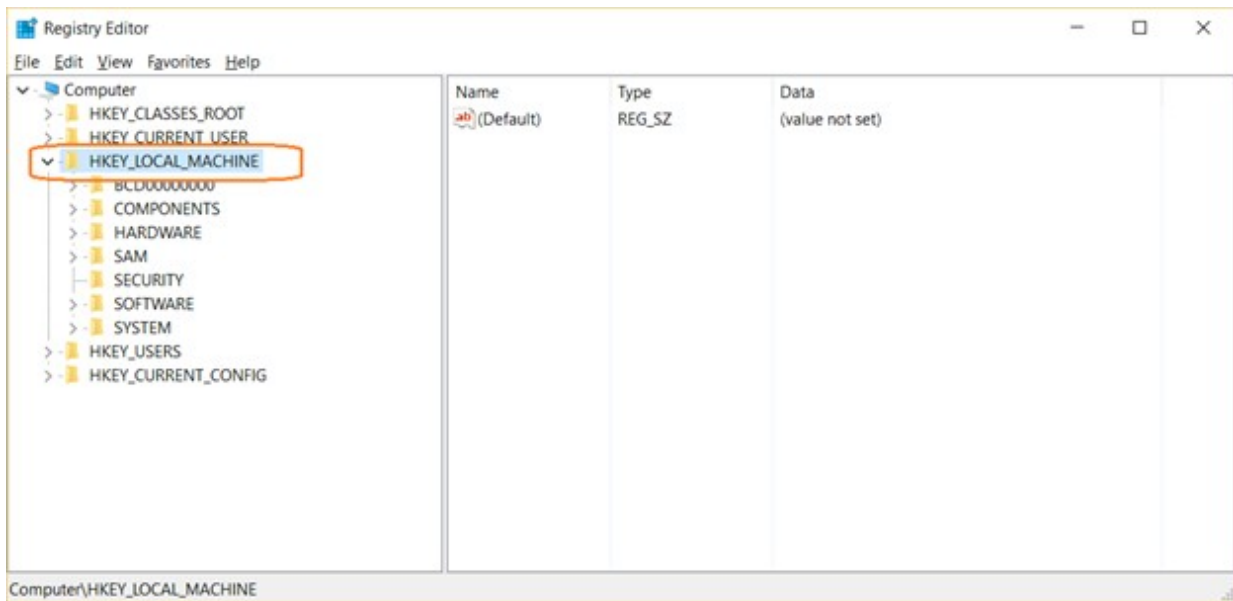

Figure 1
- > HKEY_LOCAL_MACHINE (see *Figure 1*)